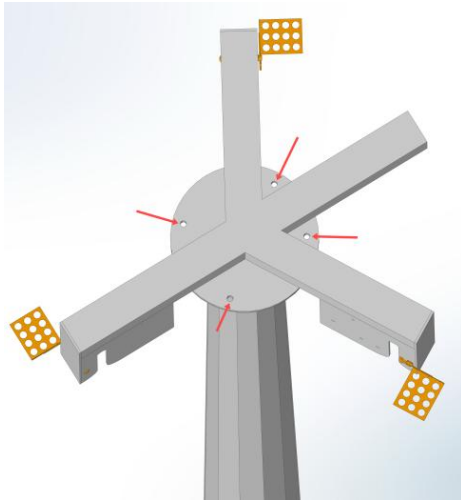
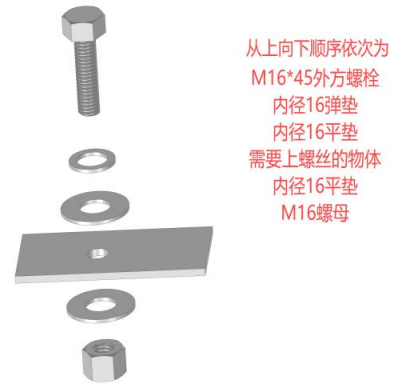

Figure 4
Figure 5
5. Connect the pole shaft to the top lifting assembly. At the locations indicated by the red arrows in Figure 4, secure the connection using the fastener arrangement shown in Figure 5.
Figure 5 fastener sequence, from top to bottom: M16 × 45 hex-head bolt; spring washer with 16 mm internal diameter; flat washer with 16 mm internal diameter; component being fastened; flat washer with 16 mm internal diameter; M16 nut.